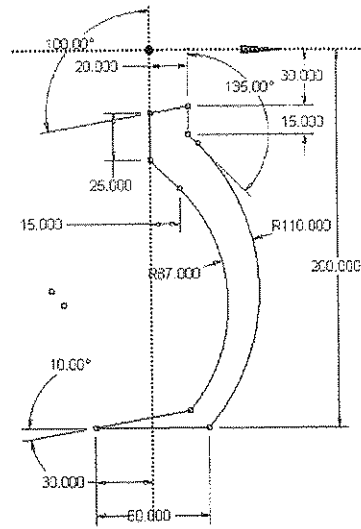

Figure 5-7 Complete sketch for the base feature
- 6. Use the **Line** and **Arc by 3 Points** tools to create the remaining sketch for the base feature and then generate its dimensions, refer to Figure 5-7.